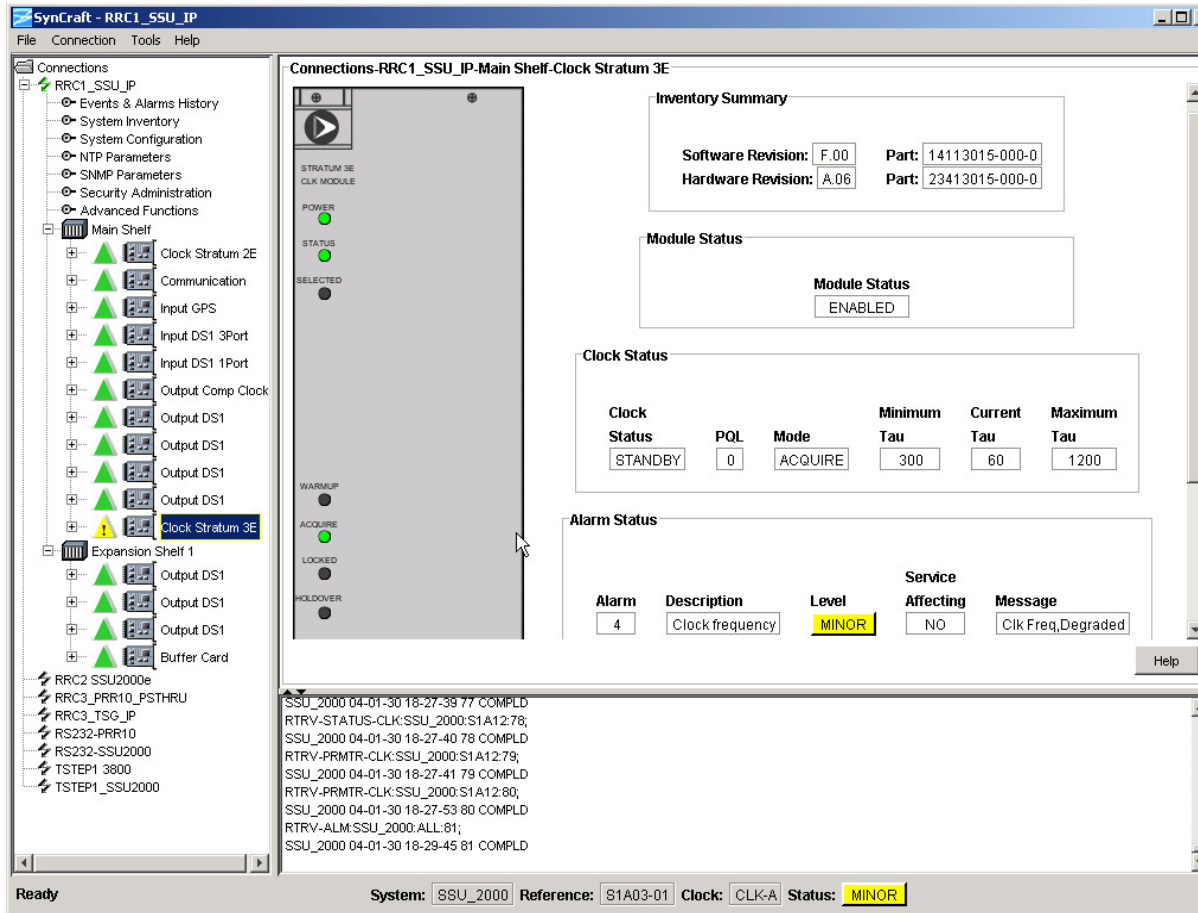

Figure H-16. Upgraded Clock Module Status
20. Wait five minutes and open a connection to the SSU-2000 you just upgraded. Select the Main shelf and then the newly-upgraded Clock module. A screen similar to Figure H-16 appears.